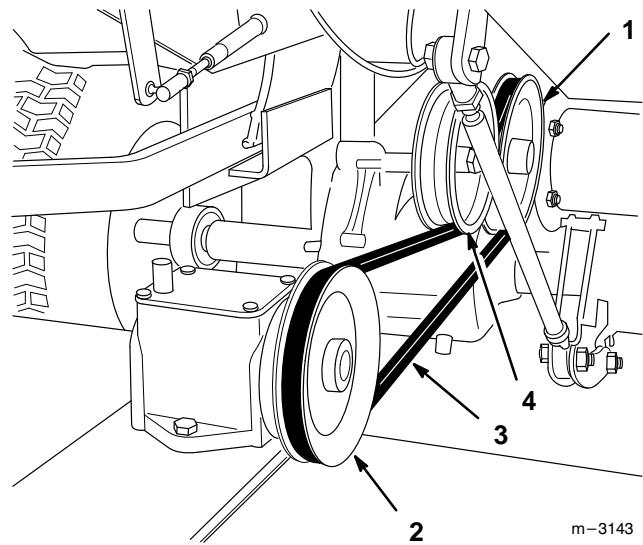

**Figure 3**
2. Mount the mower to the carrier frame with four (4) clevis pins and hairpin cotters (Fig. 3).